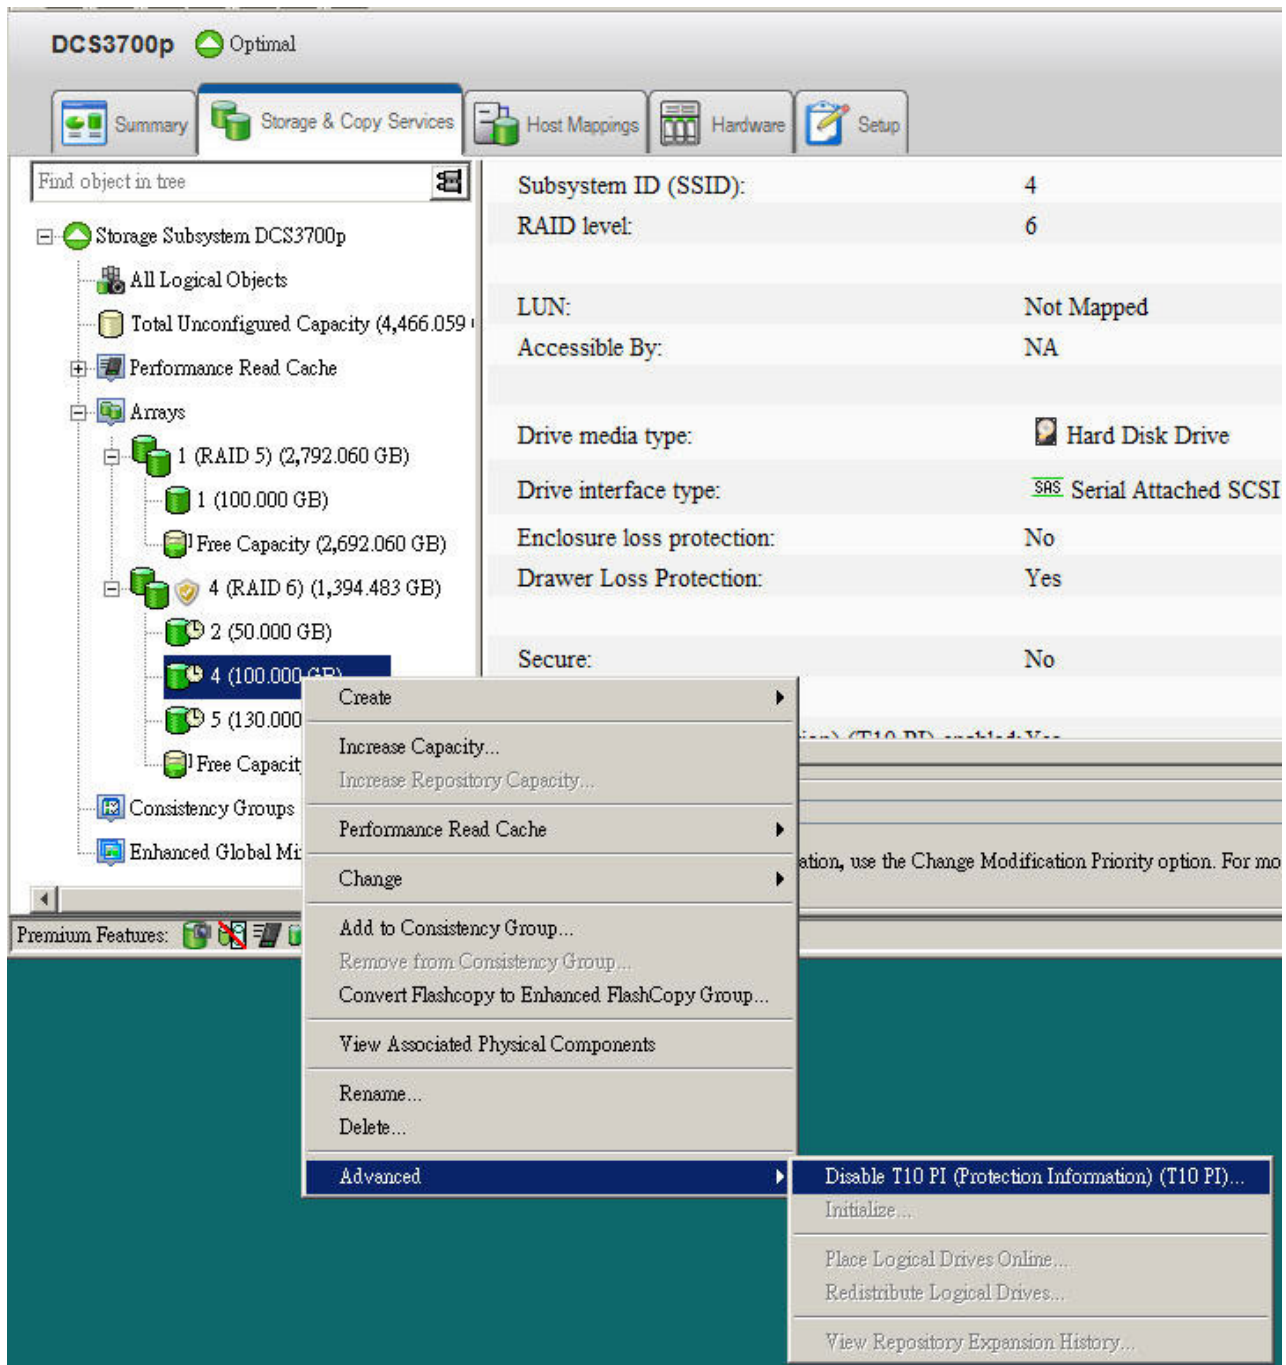

Figure 8. Disabling T10PI
- Right-click the drive that you are disabling T10PI capability and select **Disable T10PI (Protection Information) (T10PI)** as shown in Figure 8 on page 58.